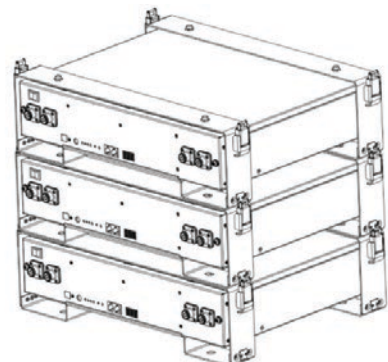

Figure3-7
- Stack the units completed in step 3 and fasten the buckles of the upper and lower simple brackets. The effect is shown in Figure 3-7